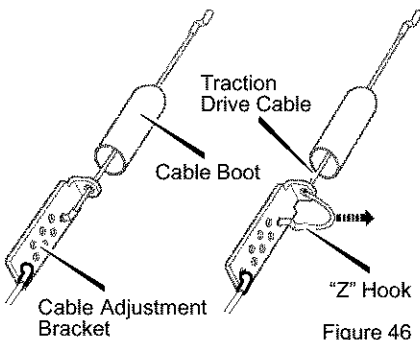

Figure 46
5. Slide the **cable boot** off the **cable adjustment bracket** (see Figure 46).